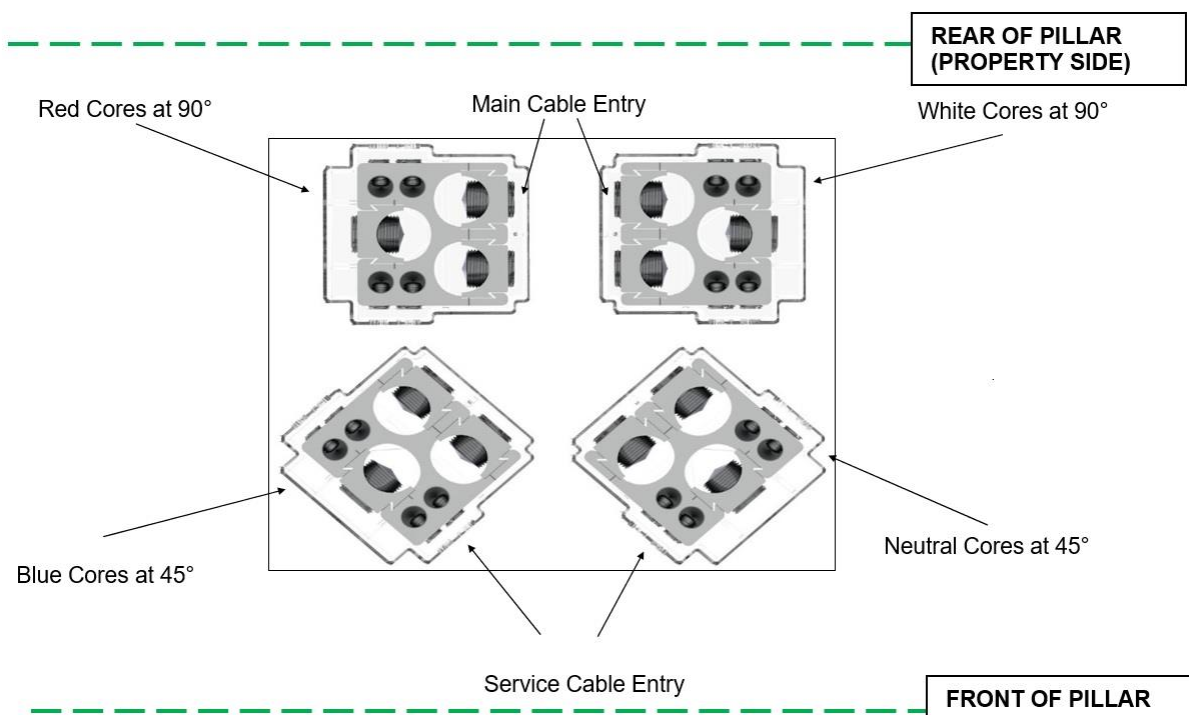
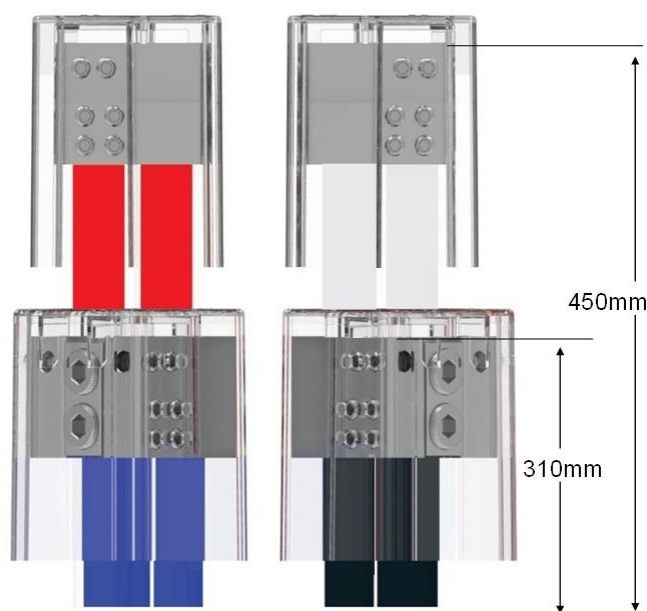

Figure 23.2 - Core Terminal Layout (top view)
Figure 23.3 - Core Terminal Layout (front view)
9. The core terminals (Refer to Figure 23.2 and Figure 23.3) are staggered with two cores at 450mm and two cores at 310mm from the turret base, allowing the turret to be fitted clear of the core terminals.